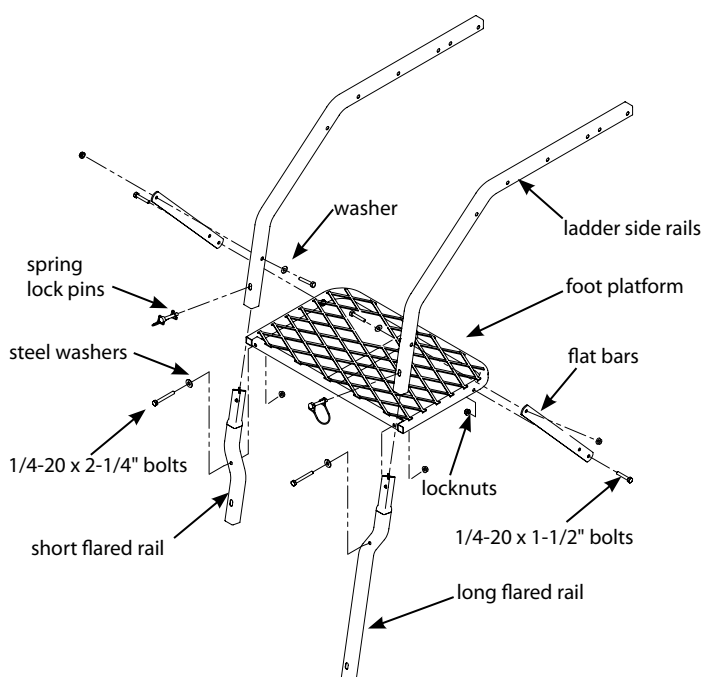

Figure 1
1. Attach the short flared rail (410031) and the long flared rail (410037) to the foot platform (410047) using (2) provided 1/4-20 x 2-1/4" bolts, locknuts and steel washers. **SEE FIGURE 1. DO NOT tighten all nut and bolt assemblies completely!**
NOTE: Mesh surface of foot platform should be on top. Make sure the short and long flared rails are orientated correctly per **FIGURE 1**.
2. Insert the two flared rails into the (2) ladder side rails (410030). Attach the (2) foot platform flat bars (AL7) to the foot platform and the ladder side rails using (4) provided 1/4-20 x 1-1/2" bolts, locknuts and (2) steel washers. **SEE FIGURE 1**. Secure the ladder side rails to the flared rails using (2) provided spring lock pins. Handle of spring lock pins must be put to the outside of ladder side rails. **SEE FIGURE 1**.